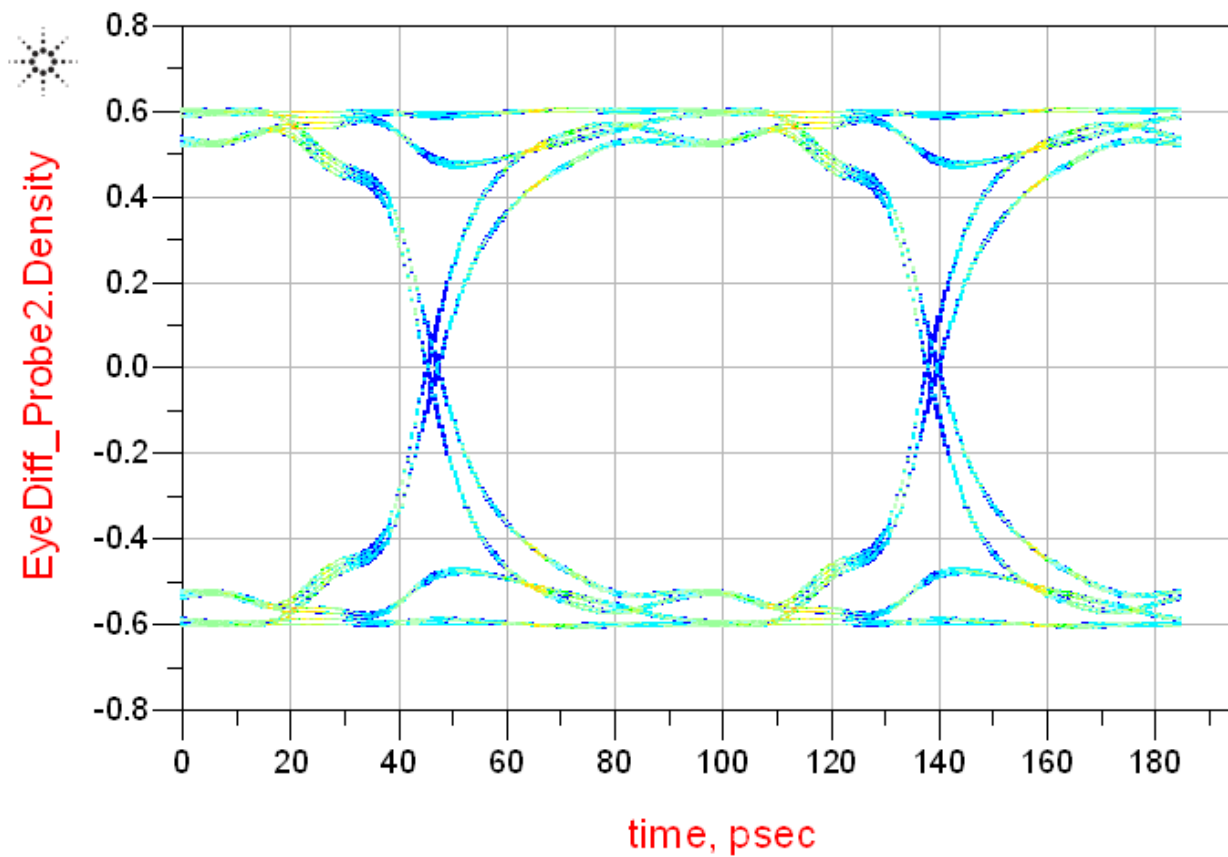

Figure 2. Eye Diagram of ADS (corner=2, Vreg=2, and emphasis = 0)
4. In the popup after simulation, insert rectangular plot from palette panel and link density measurement to view the eye diagram. Refer Figure 2.